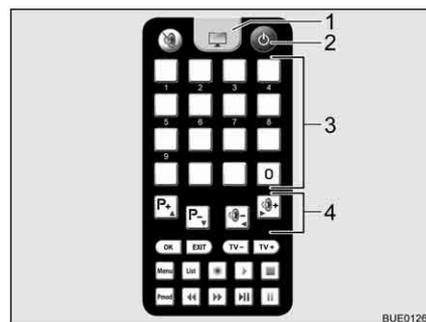

Fig. 24 Remote control
- Press the key "⏻" (Fig. 24,2) on the remote control. The satellite antenna repositions itself out of the park position and into search mode. When the unit finds the satellite, you will hear a signal tone.
- Use the memory buttons (Fig. 24,3) or the function buttons (Fig. 24,4) to set the required transmitter.